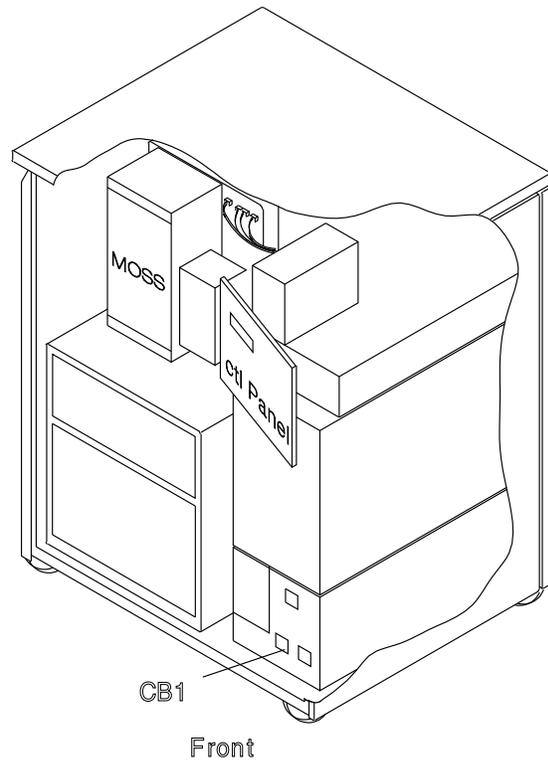
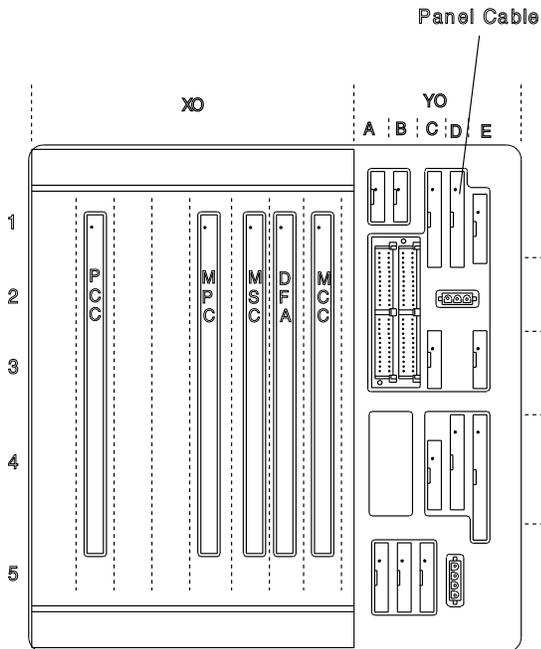

Figure 4-58. Panel, MOSS, and CB1 Locations
Figure 4-60. Panel Cable Location on MOSS Board
4. **Switch CB1 OFF.** Refer to Figure 4-58.
5. Locate the control panel and the MOSS. Refer to Figure 4-58.
8. Refer to Figure 4-58 and to Figure 4-60 on page 4-47, then remove (from the MOSS board) the cable going to the control panel (Y0-D1).